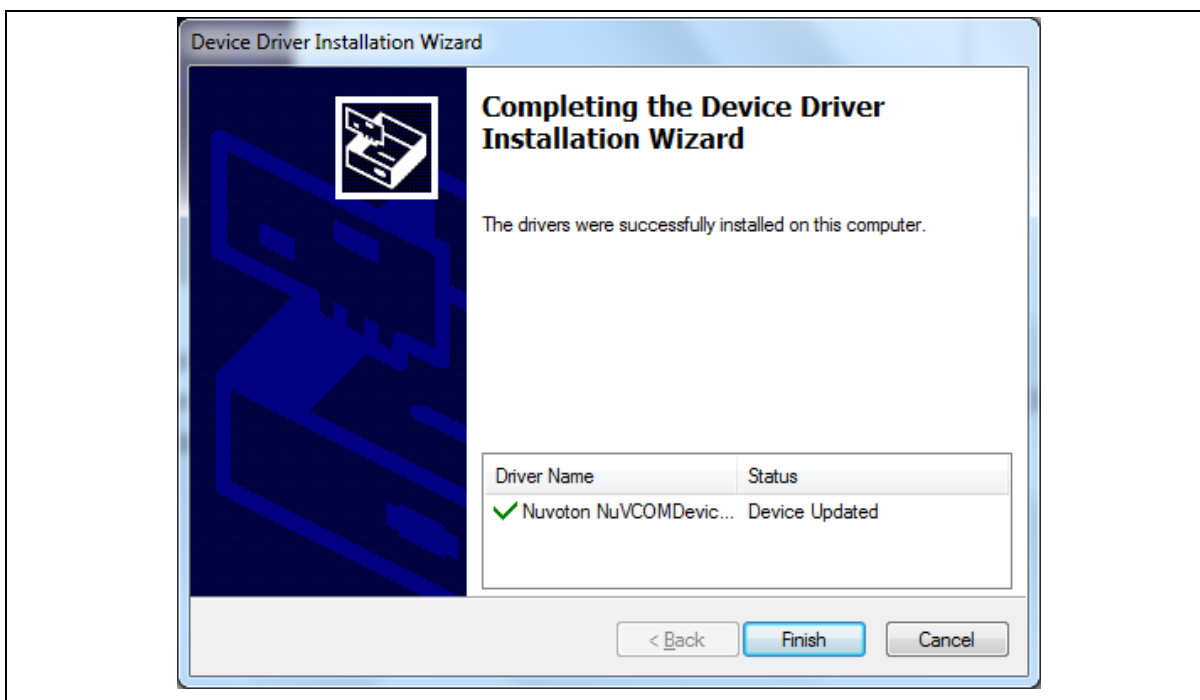

Figure 2-6 WinUSB4NuVCOM Driver Setup (6)
Step 6: Click "**Finish**" to complete the installation of the USB VCOM driver (Figure 2-6).